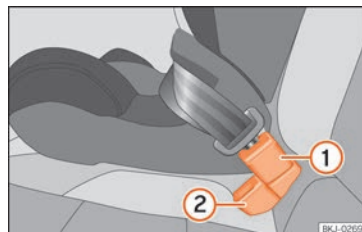

Fig. 28 Position of the belt buckle on the rear seat
»» Fig. 28 ① behind the side seat's belt buckle »» Fig. 28 ②.
- Plug the middle seat's seat belt into the middle seat's belt buckle »» Fig. 28 ① and make sure it clicks in place.
- For seat belts to be correctly fitted, the buckles must not be twisted »» Fig. 28.